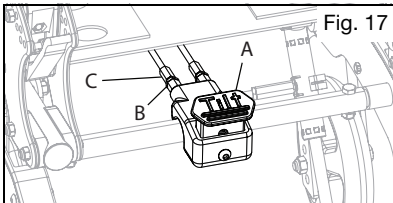

Fig. 17
- a. Depress the foot pedal (Fig. 17:A).
- a. Use two 10mm wrenches to loosen the jam nut (Fig. 17:B) while holding the adjuster (Fig. 17:C) in place. Repeat on the opposite cable.